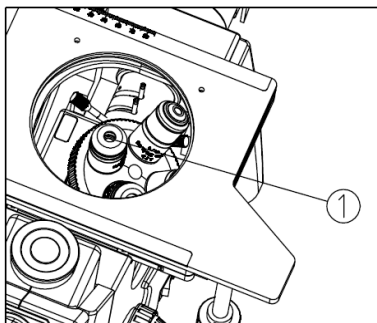

Fig.4
Turn the coarse knob to make the nosepiece to lowest. Through the hole on stage to set the objectives ① on nosepiece from low magnification to high magnification with the direction. (Fig. 4)